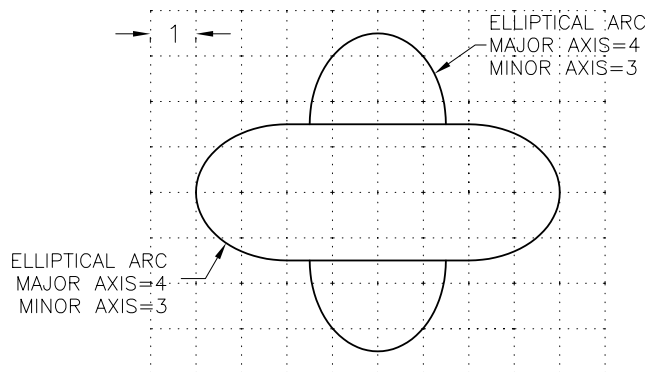

Figure 3-31 Drawing for Exercise 8
- Draw the profile shown in Figure 3-31. The distance between the dotted lines is 1.0 unit.